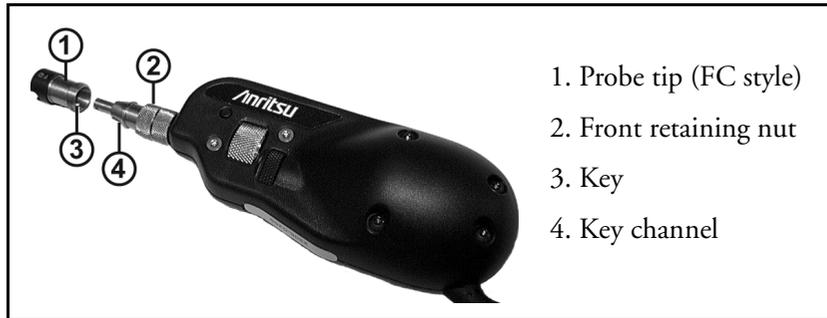

Figure 11-4: Attaching a Probe Tip
2. Select the desired probe tip. Make sure that the key (small set screw on the inside of the threaded end of the probe tip) aligns with the key channel on the barrel assembly (see items 3 and 4 in Figure 11-4) and slide the probe tip into place.
3. Secure the probe tip in place with the front retaining nut (see item 2 in Figure 11-4).